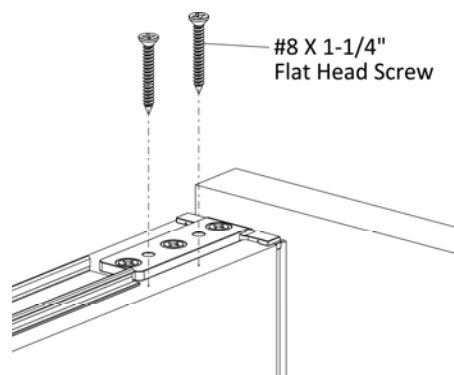

Figure 2
5. Drive two #8 X 1-1/4" Flat Head Screws through the holes in gallery panel top bracket into the standard panel, (Figure 2).